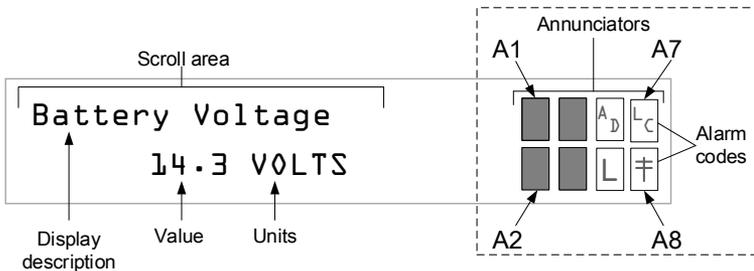

Figure 21: μ FLOG⁵ annunciators
8. Observe the LCD on the enclosure door. The annunciator, position A8, should periodically flash the † symbol to indicate that the COM1 port is active and listening for communication (Figure 21).